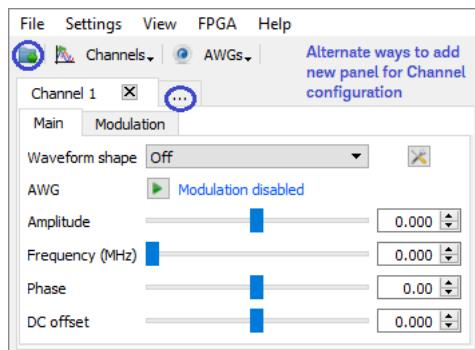

Figure 59 New panel for Channel configuration dialog box along with its various shortcut controls
- Alternatively, you may click the shortcut icons shown in Figure 59 to open the **Add new panel** dialog box.